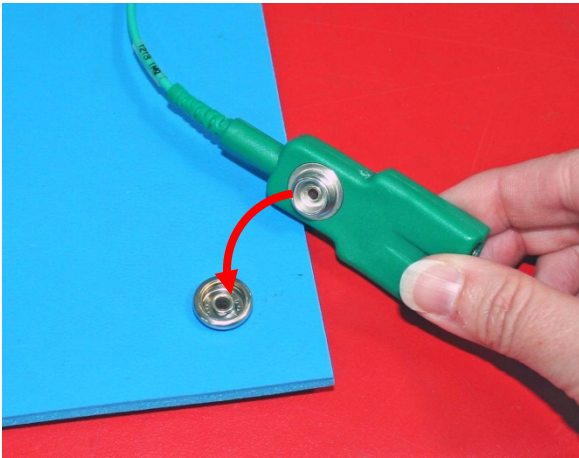

Figure 2
2. Snap the button connector on the ground cord to the button connector on the ESD mat (Figures 2 and 3).